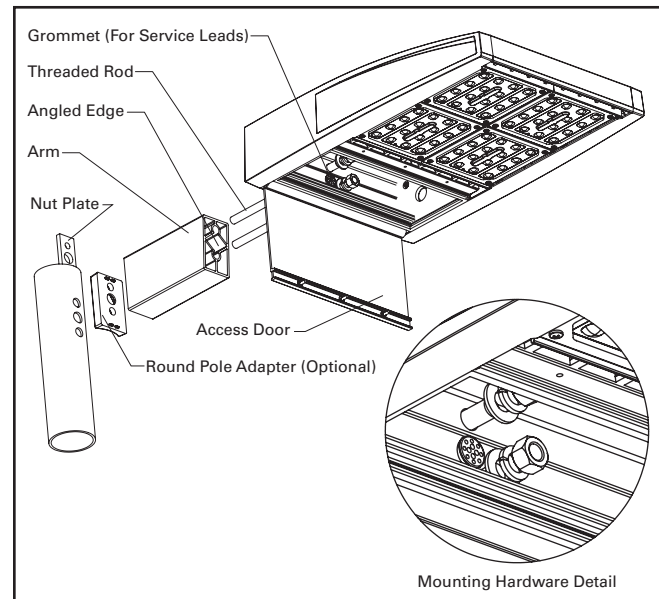

Fig 1.
### Pole Mount (FIG. 1)
**Note:** For installation to round poles follow the same instructions as the square pole installation with the additional round pole adaptor inserted between the pole and the arm (FIG. 1).